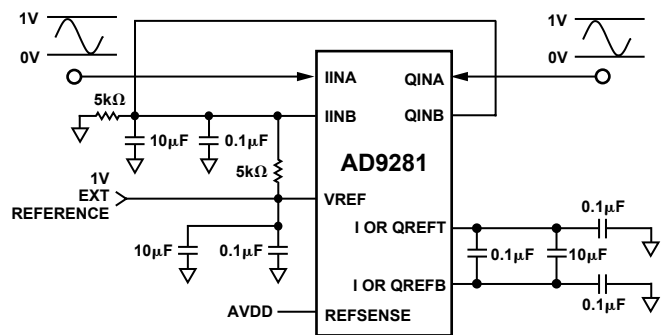

Figure 25. External Reference
**External Reference Mode (Figure 25)**—in this mode, the on-chip reference is disabled, and an external reference applied to the VREF pin. This mode is achieved by tying the REFSENSE pin to AVDD.